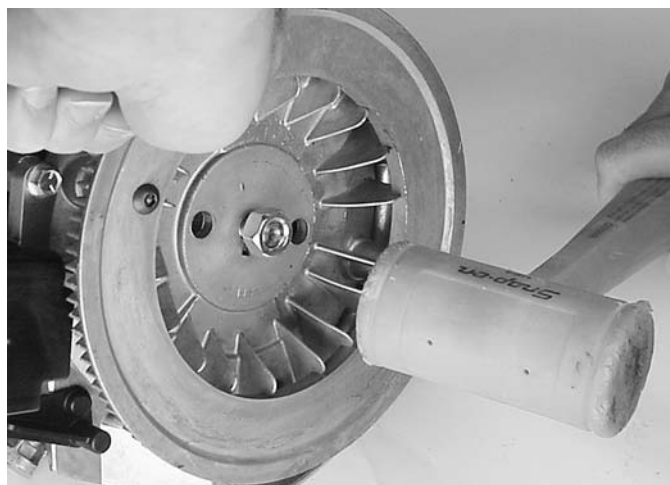

Fig. 21
3. Remove the flywheel by pulling up on the edge of flywheel while striking the flywheel nut with a soft mallet (Figure 21).